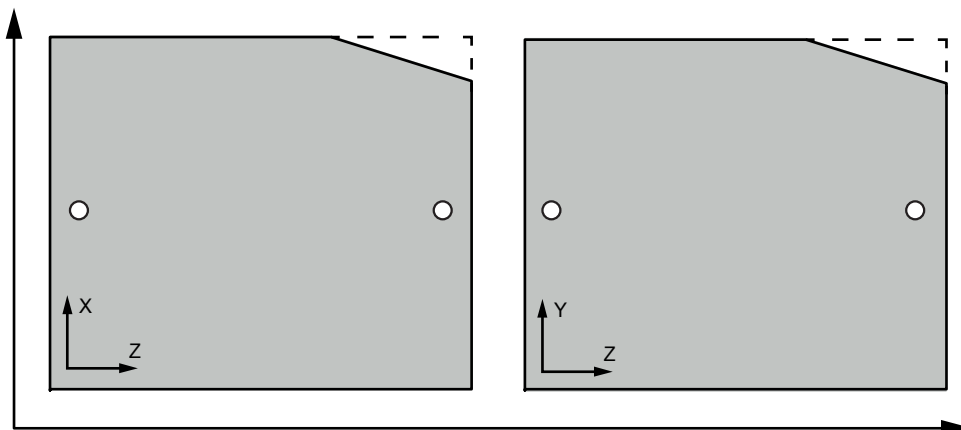

Figure 1.20 Films cut and marked with the coordinate system
- 2 Cut the corner of each film, and carefully mark the orientation of each film, see Figure 1.20.